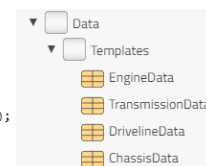

Figure 2 Code and Package structure
1. In the *Data.Templates* package, create four records called *EngineData*, *TransmissionData*, *DrivelineData* and *ChassisData*, containing the needed parameters to describe each subsystem (also see below). Add the keyword *partial* to all the record classes. The code and record package should look like Figure 2.